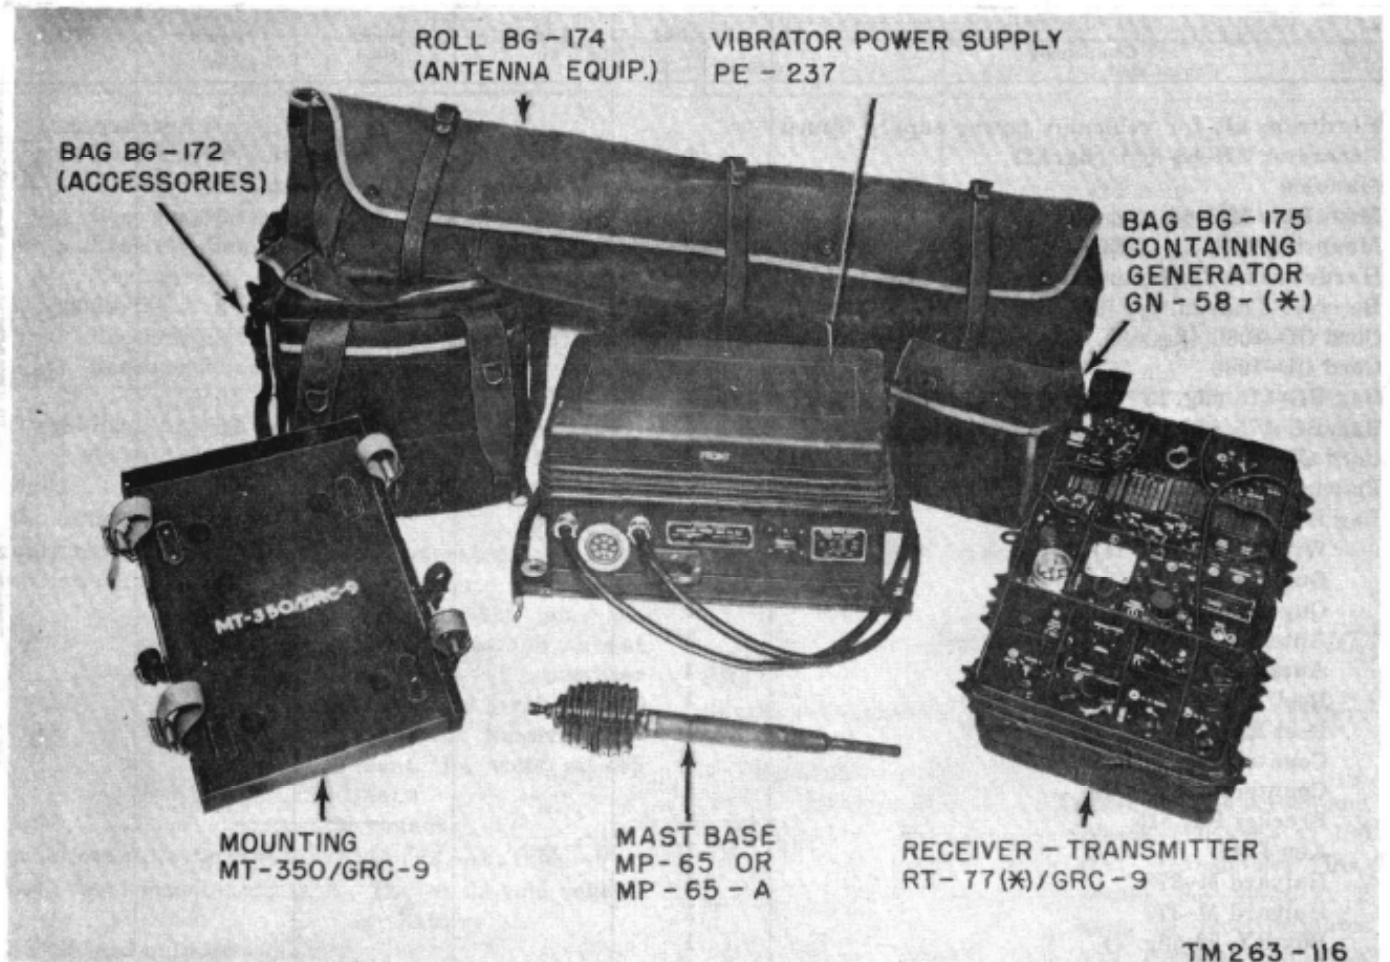

Figure 4. Components of Radio Set AN/GRC-9.
a. The receiver-transmitter (fig. 4) consists of separate receiver and transmitter sections. These sections are mounted in a metal case that has a tight-fitting removable metal cover. This panel
## 18. Description of Mounting MT-350/GRC-9 (fig. 4)
Four carrying bags are provided for transporting the equipment. They are of olive drab color and are constructed of heavy canvas. Leather straps are provided for ease of carrying the equipment. The contents of **Bag BG-175** (figs. 4 and 13), **Bag BG-172** (figs. 4 and 5), **Roll BG-174** (figs. 4 and 6), and **Bag CW-140/GRC-9** (fig. 42) are described in paragraph 7.